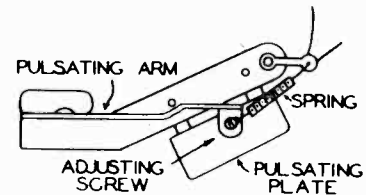

FIGURE 2
B. The pulsating plate in the trip mechanism is actuated by the pulsating arm and the cam on the underside of the turntable. If the pulsating arm is loosely riveted to the bracket, the screw on the end of the pulsating arm will move back and forth over the pulsating plate. This changes the distance the plate is lifted by the pulsating arm and affects the trip adjustment. A spring has been added in production to hold the end of the lever under tension so that it does not move "in" and "out" and change the trip adjustment. On record changers not equipped with this spring, use the lead spring Part No. 28-8919 and connect as shown in Figure 2. Attach the spring to the wiring terminal on the end of the bracket and to the adjusting screw. Check to make sure that the pulsing roller does not scrape the hub on the under side of the turntable.